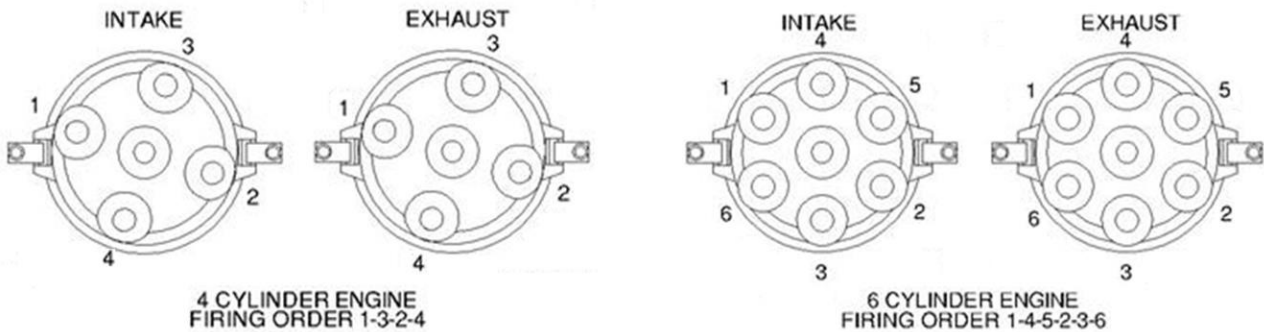

Figure 203 – Firing Order of Distributor Caps
- Note that in Figure 203 all distributors are shown looking from the flywheel end of the engine. “Exhaust” and “Intake” refer to the position of the spark plugs in the cylinder – on the exhaust or intake side of the head.